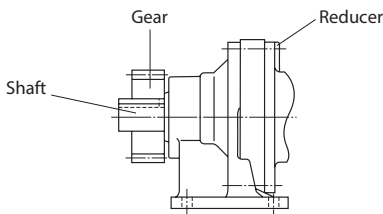
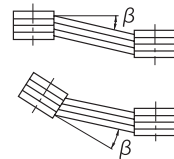

Figure 7
Figure 8
(2) When chain sprocket and gear are used
- Install sprocket and gears so that their point of load application will be closer to the gear motor or reducer side with respect to the length of the shaft. (Figure 7)
(3) When v belt is used
- The parallelism and eccentricity (β) between two pulleys should be within 20'. (Figure 8)